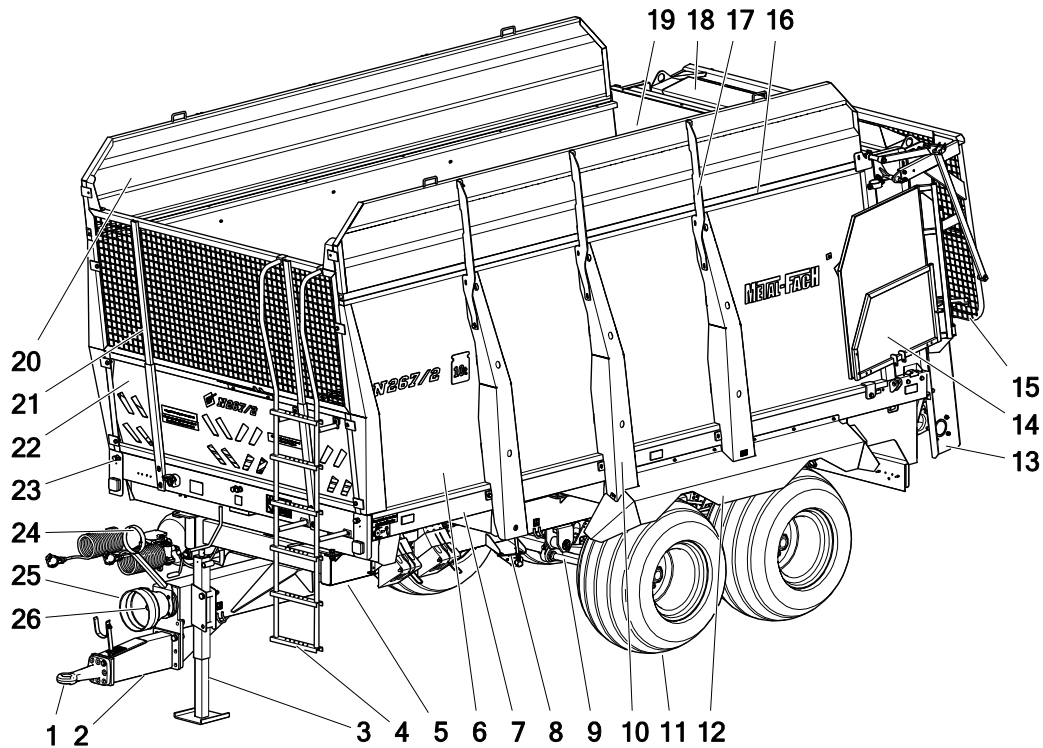

Figure 4 The general design of the N267 series Manure Spreader:
The design of the Spreader is shown in Figure 4. The main components of the Spreader include the bottom frame (5) on which the top frame (7) is mounted. The following structural components are fixed to the bottom frame (5): the unsprung tandem (9) in the N267 and N267/1 Spreaders, and the sprung axles in the N267/2 Spreader. Additionally, the front section of the bottom frame has a factory-mounted hitch adapter (2) with a drawbar eye (1), which comes in various configurations, depending on the customer's order. A mechanical support foot (3) is also part of the standard accessories.